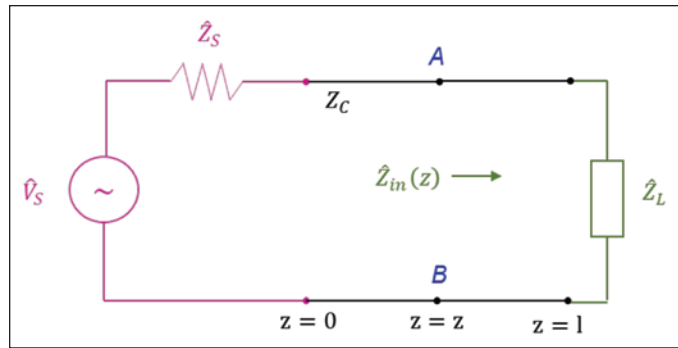
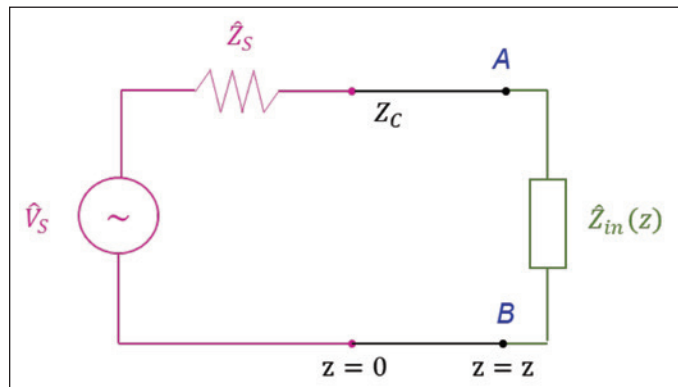

Figure 5: Input impedance to the line at any location z
Figure 6: Equivalent circuit
Consider a transmission line circuit shown in Figure 5.
The input impedance to the line at any location z , $\hat{Z}_{in}(z)$, is always calculated looking towards the load, regardless whether we use Model 1 or Model 2. Figure 6 shows the equivalent circuit where the circuit to the right of nodes AB has been replaced with the input impedance to the line at that location, [4].
Continuous technology scaling increases the contact resistance. This led to the introduction of silicidation from the 0.35 μm CMOS process node. Silicides are low-ohmic films in the active areas of transistors. Because of the high currents during ESD stress, silicidation has a negative impact on the ESD robustness of MOS transistor based ESD clamps. Silicidation leads to a non-uniform current conduction in the drain and source areas. In fully silicided MOS devices, the ESD current concentrates close to the gate. This locally increases the current density and reduces the failure level of the device. A silicide-blocking mask between drain and gate (Figure 5) helps to reduce this “current crowding effect” and enables a uniform spread of the current. The ESD design measure enables a significant improvement of the failure current during ESD stress (Figure 6).
Figure 5: Device cross-section and simplified layout view of a fully silicide grounded-gate PMOS transistor (a) and a silicide block grounded-gate PMOS with silicide-blocking (SB) between drain and gate (b)
Figure 6: Comparison of 100ns TLP-IV curves of a fully silicide grounded-gate PMOS and a silicide block grounded-gate PMOS: complete TLP IV curves (a) and zoom-in to failure of the fully silicide device (b)